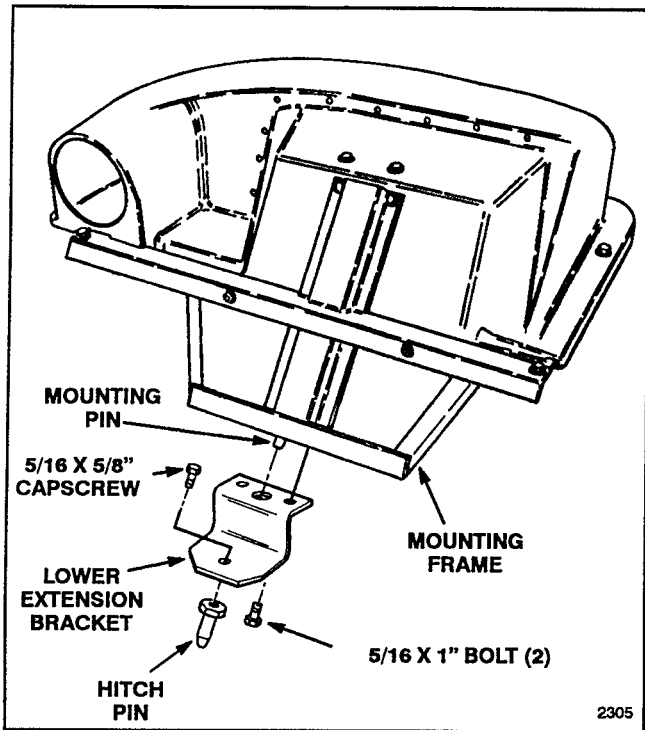

Figure 4
2. Slide the lower extension bracket onto the mounting pin on the mounting frame (Fig. 4).
3. Bolt the lower extension bracket to the mounting frame using (2) 5/16 x 1" bolts and locknuts supplied.
- Secure hitch pin to lower extension bracket in hole shown in Figure 4 with a 5/16 x 5/8" capscrew.